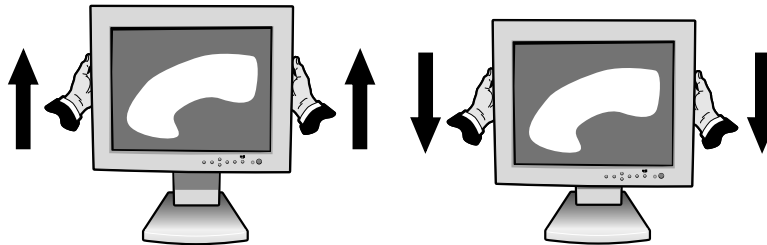

Figure RL.1
The monitor may be raised or lowered in either Portrait or Landscape mode. To raise or lower screen, place hands on each side of the monitor and lift or lower to the desired height (**Figure RL.1**).
Before rotating, the screen must be raised to the highest level to avoid knocking the screen on the desk or pinching your fingers. To raise the screen, place hands on each side of the monitor and lift up to the highest position (**Figure RL.1**).
2. Place hands on each side of the monitor and lift up to the highest position (Figure RL.1).